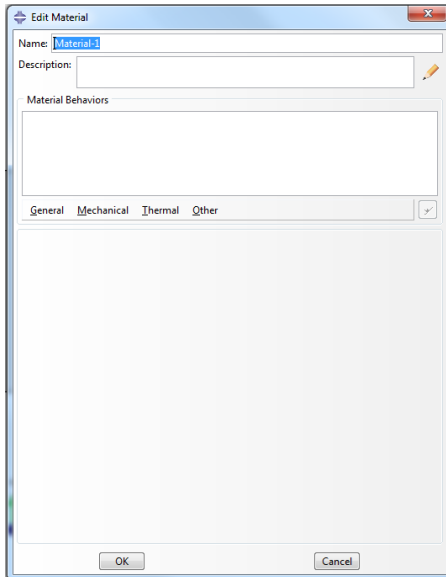
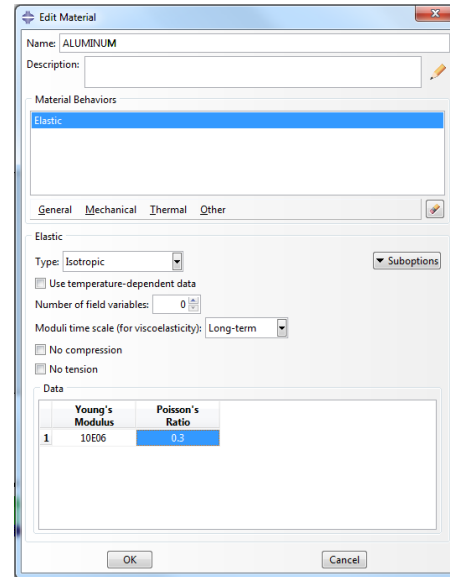

Figure 8a. Edit Material Dialog Box
Figure 8b. Edit Material Dialog Box (ALUMINUM)
- To define material properties for this model, double click on **Materials** in the model tree and the **Edit Material** dialog box will appear (Figure 8a). Enter a **Name** for the material (ALUMINUM), and click the **Mechanical** tab, highlight **Elasticity** and click **Elastic**. Enter values of **Young's Modulus** = 10E06 Psi, and **Poisson's Ratio** = 0.3. After the material properties have been entered, the **Edit Material** dialog box should look identical to Figure 8b.